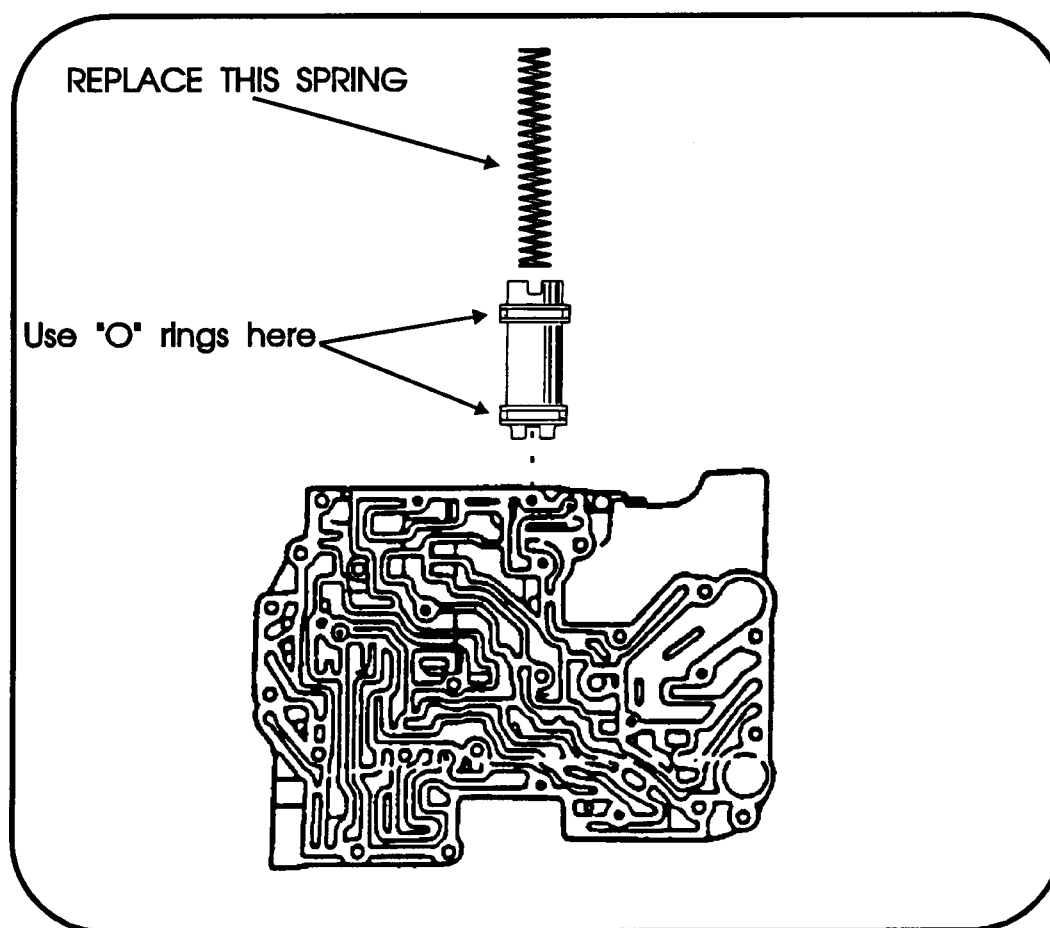

Figure 1.
2. Replace the 1-2 accumulator piston teflon rings with suitable "O" rings. Replace the 1-2 accumulator spring with a stronger spring (A 700-R4 throttle plunger spring is sufficient if it is shimmed 1/4 in. on the piston side). **SEE FIGURE 1.**